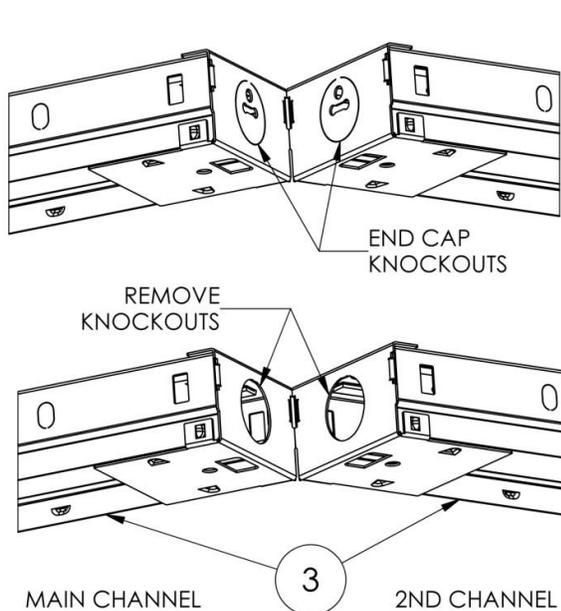

Figure 2
- A. Fixtures can be used as one continuous unit by joining end to end as shown in Figure 2 & 3. Remove appropriate knockouts on both fixtures for this option.
- C. Make wiring connections between the second and first fixture through the end plate knockout holes, Figure 2 & 3.